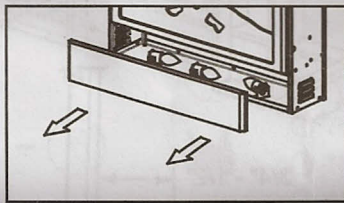
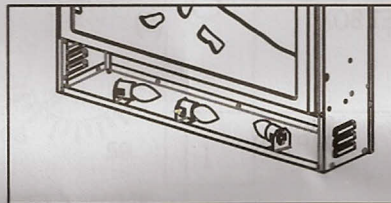

Fig.5
Fig.6
- Take hold of each side of the bulb cover panel at the bottom of the firebox and pull straight out (See Fig.5). You can see three 40W light bulbs in the firebox (See Fig.6).